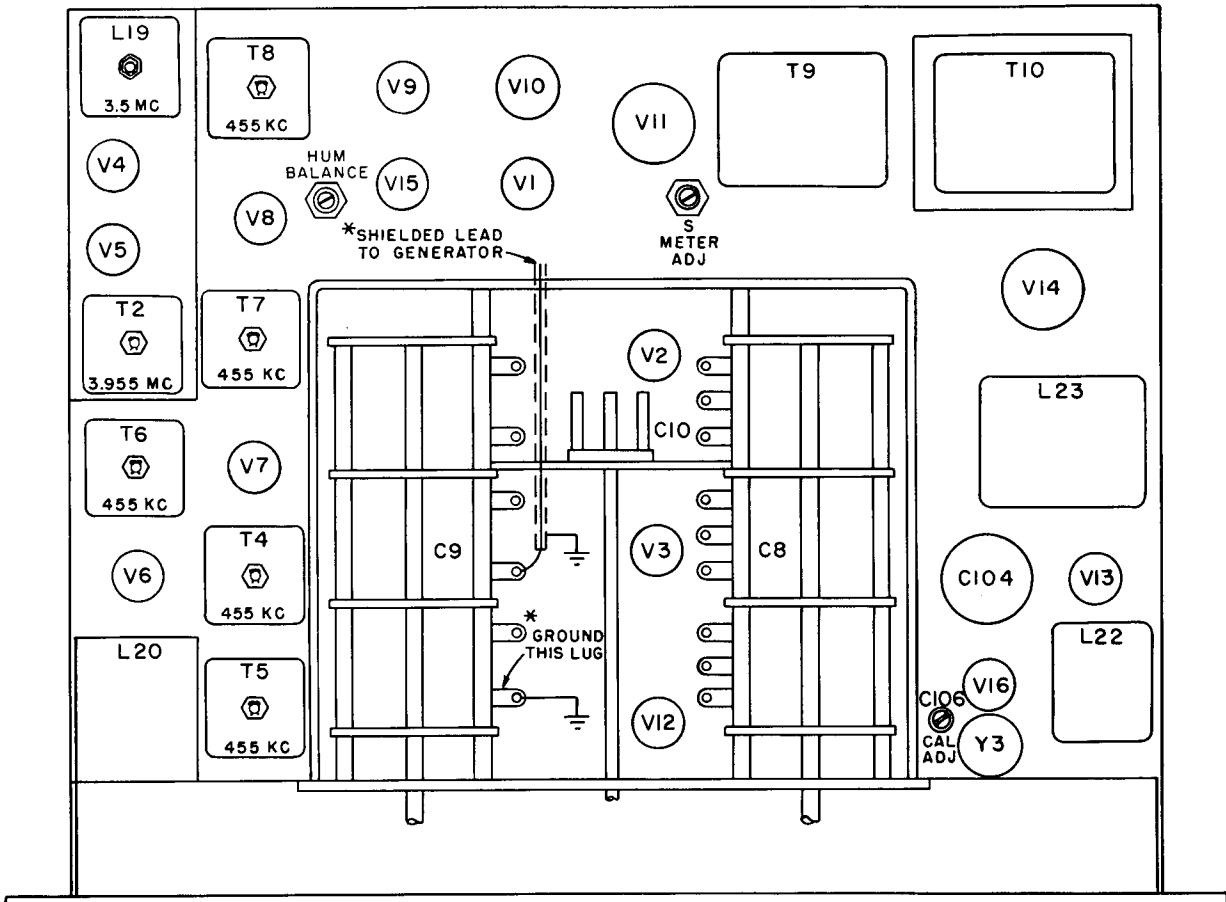

Figure 4-2. Receiver Chassis, Top View
b. As shown in Figure 4-2, ground one lug of main tuning capacitor and connect output lead from hf signal generator to other.
- b. As shown in Figure 4-2, ground one lug of main tuning capacitor and connect output lead from signal generator to other.
- c. In order, adjust i-f transformers T8, T7, T6, coil L20, and i-f transformers T5 and T4 (Figures 4-2 and 4-4) for maximum reading on vtvm.
b. Adjust coil L19 (Figure 4-2) until some deflection of vtvm is noted.
d. In order, adjust i-f transformers T3 and T2 (Figures 4-2 and 4-4) for maximum deflection
4-22 To adjust HUM BALANCE control R94 (Figure 4-2) proceed as follows:
e. Adjust S METER ADJ control on top of receiver chassis (Figure 4-2) for S-meter reading of S-9.